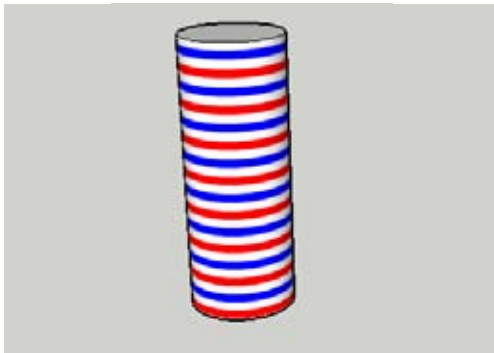

Figure 8-70
1. Download my Barber Pole model from the 3D Warehouse (Figure 8-70). A material with horizontal stripes is applied to the cylinder.